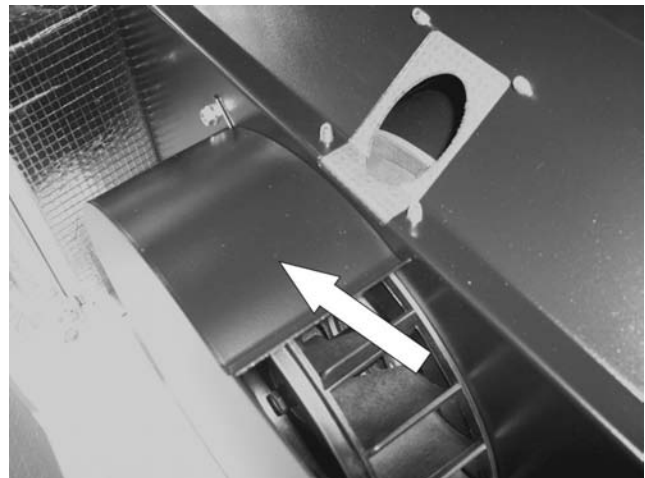

Figure 191.
7. **Remove Fan Housing Cover:** Using a 10mm socket remove four bolts from the fan housing cover. Remove the fan housing cover. See Figure 191.